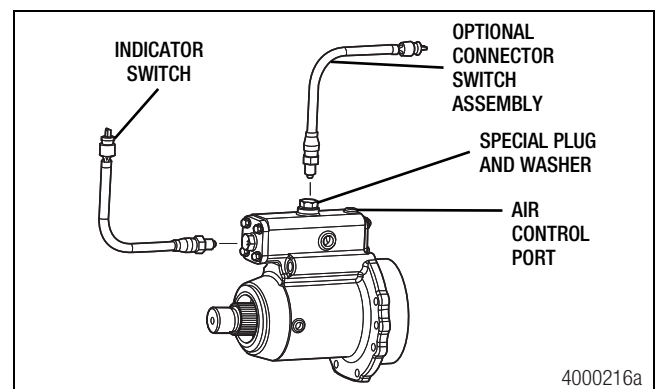

Figure 8.5
3. Install the indicator switch. Tighten the switch to 25-30 lb-ft (34-41 Nm). Figure 8.5.
2. Verify the indicator switch closes when the PTO completes a shift to engage the drive. Figure 8.5.